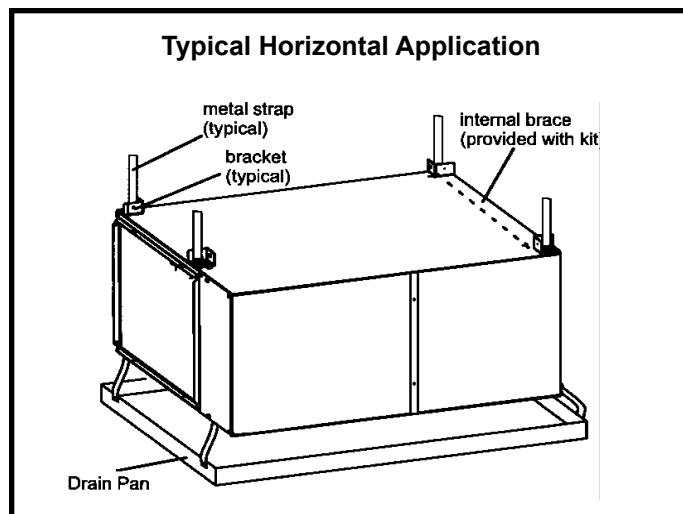
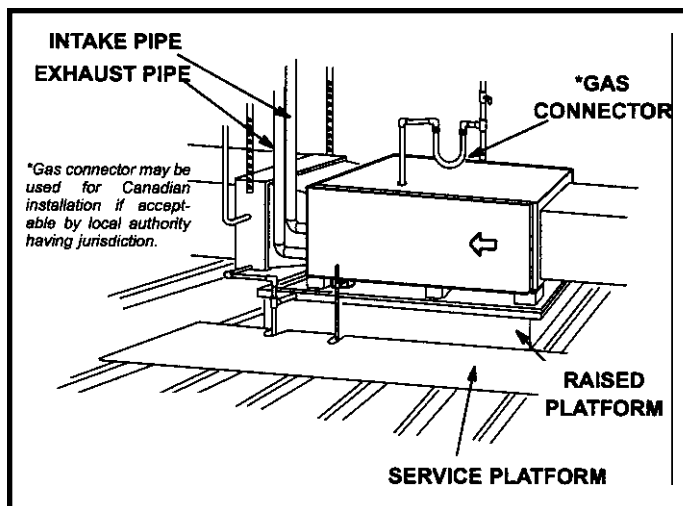

Figure 18
Figure 19
This furnace may be installed in either an attic or a crawl space. Either suspend the furnace from roof rafters or floor joists, as shown in Figure 18, or install the furnace on a platform, as shown in Figure 19. A horizontal suspension kit (51W10) may be ordered from your distributor or use equivalent.
2. Construct a raised wooden frame and cover frame with a plywood sheet. If unit is installed above finished space, fabricate an auxiliary drain pan to be installed under unit. Set unit in drain pan as shown in Figure 19. Leave 8 inches for service clearance below unit for condensate trap.